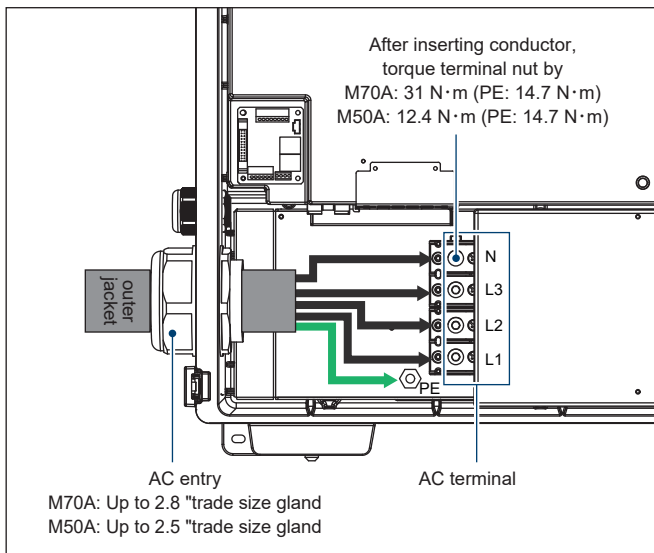

Figure 3-15: Location for AC terminal
Figure 3-15 illustrates the location of the AC conduit entry and connections to the AC terminal block:
- After conductor is inserted, use 8 mm (M70A_260) / 5mm (M50A_260) hex wrench to tighten L1, L2, L3, N terminal with the torque shown as **Figure 3-15**.